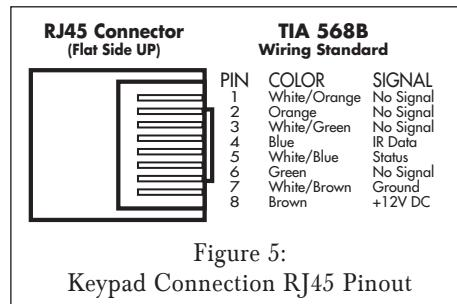

Figure 5:
2. Terminate each CAT5 cable with RJ45 connectors on each end. Follow the TIA568B wiring standard. (See Figure 5)